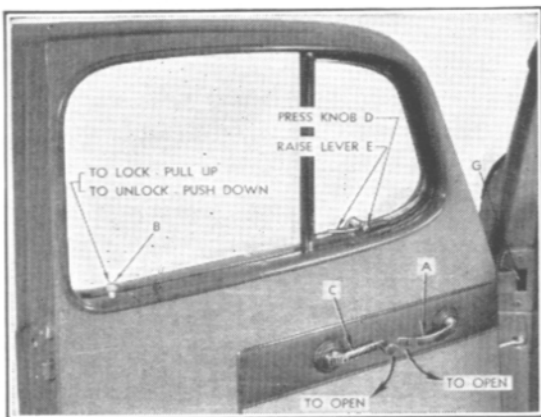

Figure 56
To lock the car from the inside, or outside without using the key, pull up on the small knob (B) projecting from the door window finish moulding. See Fig. 56. To unlock the lock from the inside push down on the knob.
The doors are opened from the inside by pushing down on handles (A), Figs. 56 and 57. These can be operated only when the locking knob (B) is pushed down.
The door windows are operated by turning handles (C), Figs. 56 and 57.
Ventilator wings—friction type are unlocked by pressing knob (D), Fig. 56, and raising handle (E).
the spring contact surface (G) of the concealed hinge, see Figs. 56 and 57.